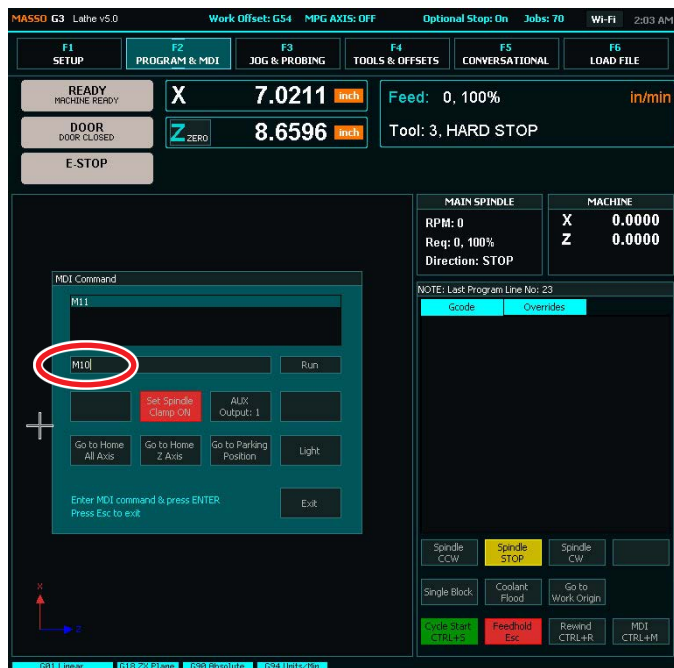

FIGURE 40
8. Now enter “M10” (collet closed). The air cylinder piston should be fully extended and the collet closed (see Figure 40).